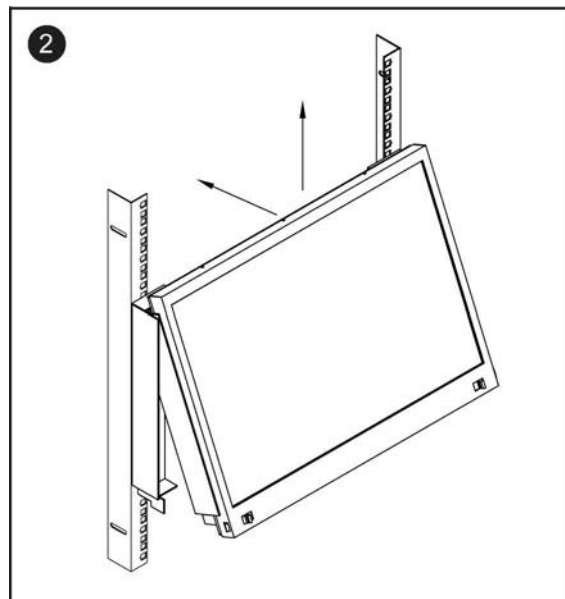

Figure 4.
- Insert the upper part of the LCD display to the rack shown in **Figure 4**.